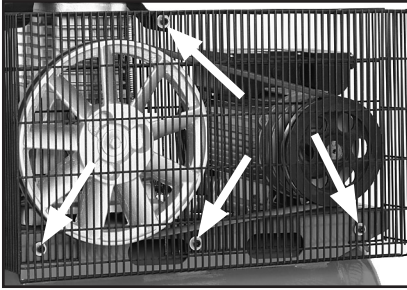

Figure 21. Belt guard mounting bolts.
1. Remove the belt guard. The guard is attached to the compressor frame by the mounting bolts shown in **Figure 21**.